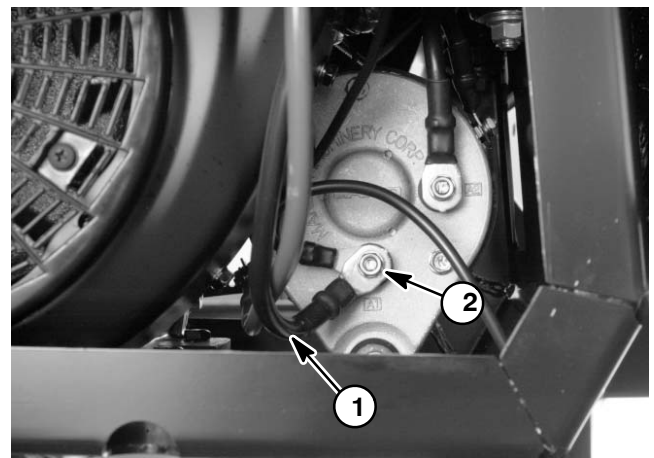

Figure 22
A. Disconnect ground cable to engine at starter/generator terminal A1 (Fig. 22).
- A. Connect ground cable from the engine at starter/generator terminal A1 (Fig. 22).